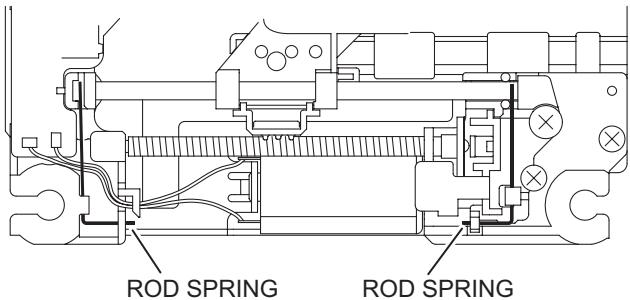

Fig.5
3.2.2 Removing the pickup assembly (See Fig.5 to 9)
- (1) Remove the two rod springs pressing the guide shaft. (See Fig.5)